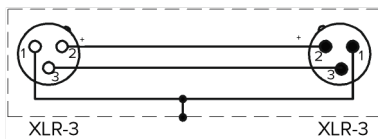

Fig.5
1. Set the switch (6) to the position corresponding to the voltage of the network used.
2. Insert the pin plug into the power filter unit (4).
3. Connect the input terminal (2) to the microphone using the supplied XLR-5 - XLR-6 cable.
4. To connect the output terminal of the power supply unit to the mixing console use any XLR-3 microphone cable (Fig. 5).
6. Turn on the power switch (5). The alarm indicator (1) will light up on the panel.